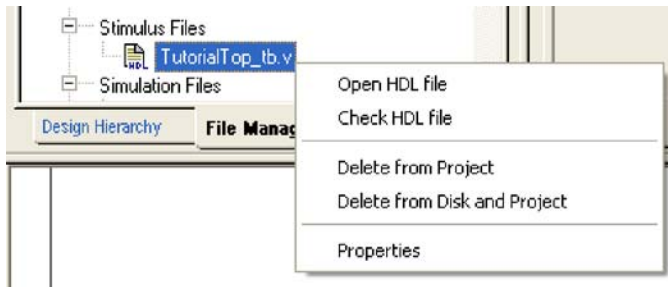

Figure 5-26. Check HDL Option from File Manager
4. Check the HDL in the file before you continue. Under the File Manager tab (Figure 5-26), right-click *TutorialTop\_tb.v* and select **Check HDL**. This checks the syntax of *TutorialTop\_tb.v*. Before moving to the next section, modify the code if you find any errors.